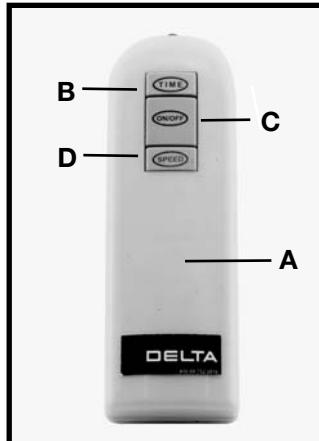
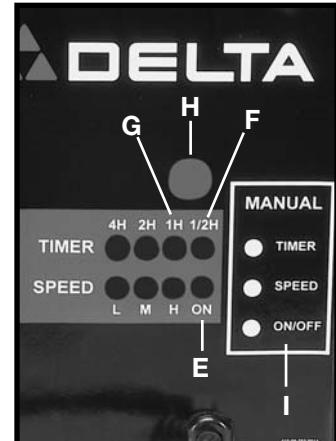

Fig. 10A
Fig. 10B
The Air Cleaner is equipped with a REMOTE CONTROL (A) Fig. 10A. **NOTE:** The remote requires two (2) AAA batteries (not supplied). Battery housing is located inside the back cover.
Notice that the remote control has three control buttons (Fig. 10A): TIME (B), ON/OFF (C), and SPEED (D). These buttons correspond to the LED sensor panel on the rear of the machine (I) Fig. 10B. **NOTE: When the machine is connected to the power source, a green light (E) will be activated on the panel.**
To activate the blower unit, press the "ON/OFF" button (C) Fig. 10A. The machine will begin in the default speed of Low or "L" on the sensor panel. Press the SPEED button once, and the machine will run at the high (or "H" level). Press the SPEED button again, and the machine will run at the medium speed (or "M"). Press the SPEED button a third time, and the machine will return to the Low Speed mode.
To turn the machine off, press the "ON/OFF" button (C) Fig. 10A.
The 50-868 Dust Collector provides a timer that can be set by remote control. (B) Fig. 10A.
When the TIME button (B) Fig. 10A is pressed on the remote control, the machine will run for 1/2 hour. (An LED light will show up on the sensor panel (F) Fig. 10B). Pressing the TIME button again will set the machine to run for one hour. Notice that the light on the sensor panel has now moved to the 1H location (G) Fig. 10B. When the TIME button is pressed a third time, the machine will run for 90 minutes. At this point, two lights will appear - one under the 1H location (G) and one under the 1/2H location (F) indicating an hour and a half. Continue this process for up to 7 1/2 hours of run time.
All of these actions can be manually controlled by using the buttons on the sensor panel (I) Fig. 10B.